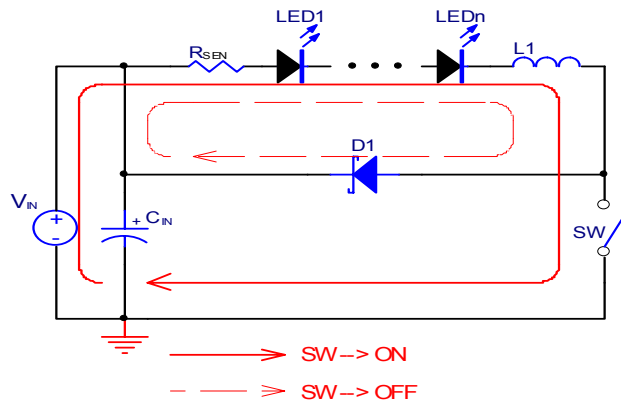

Fig. 85. Power loop of MBI6651
10. When SW is ON/OFF, the direction of power loop should keep the same way to enhance the efficiency. The sketch is shown as Fig. 85.